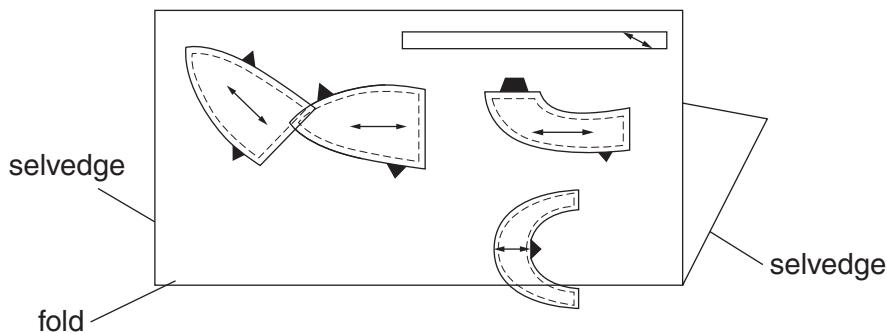

Fig. 3
Fig. 3 shows an incorrect pattern lay for the baseball cap.
- (a) Identify **three** errors which have been made in the pattern lay shown in Fig. 3.